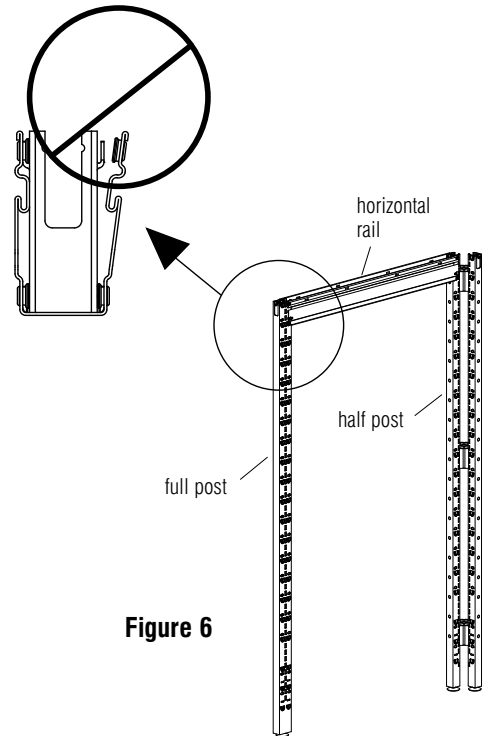

Figure 6
2. Referring again to the space plan, position the appropriate vertical post (full or half post) relative to the horizontals and tap the horizontals into place. **Figure 6.**